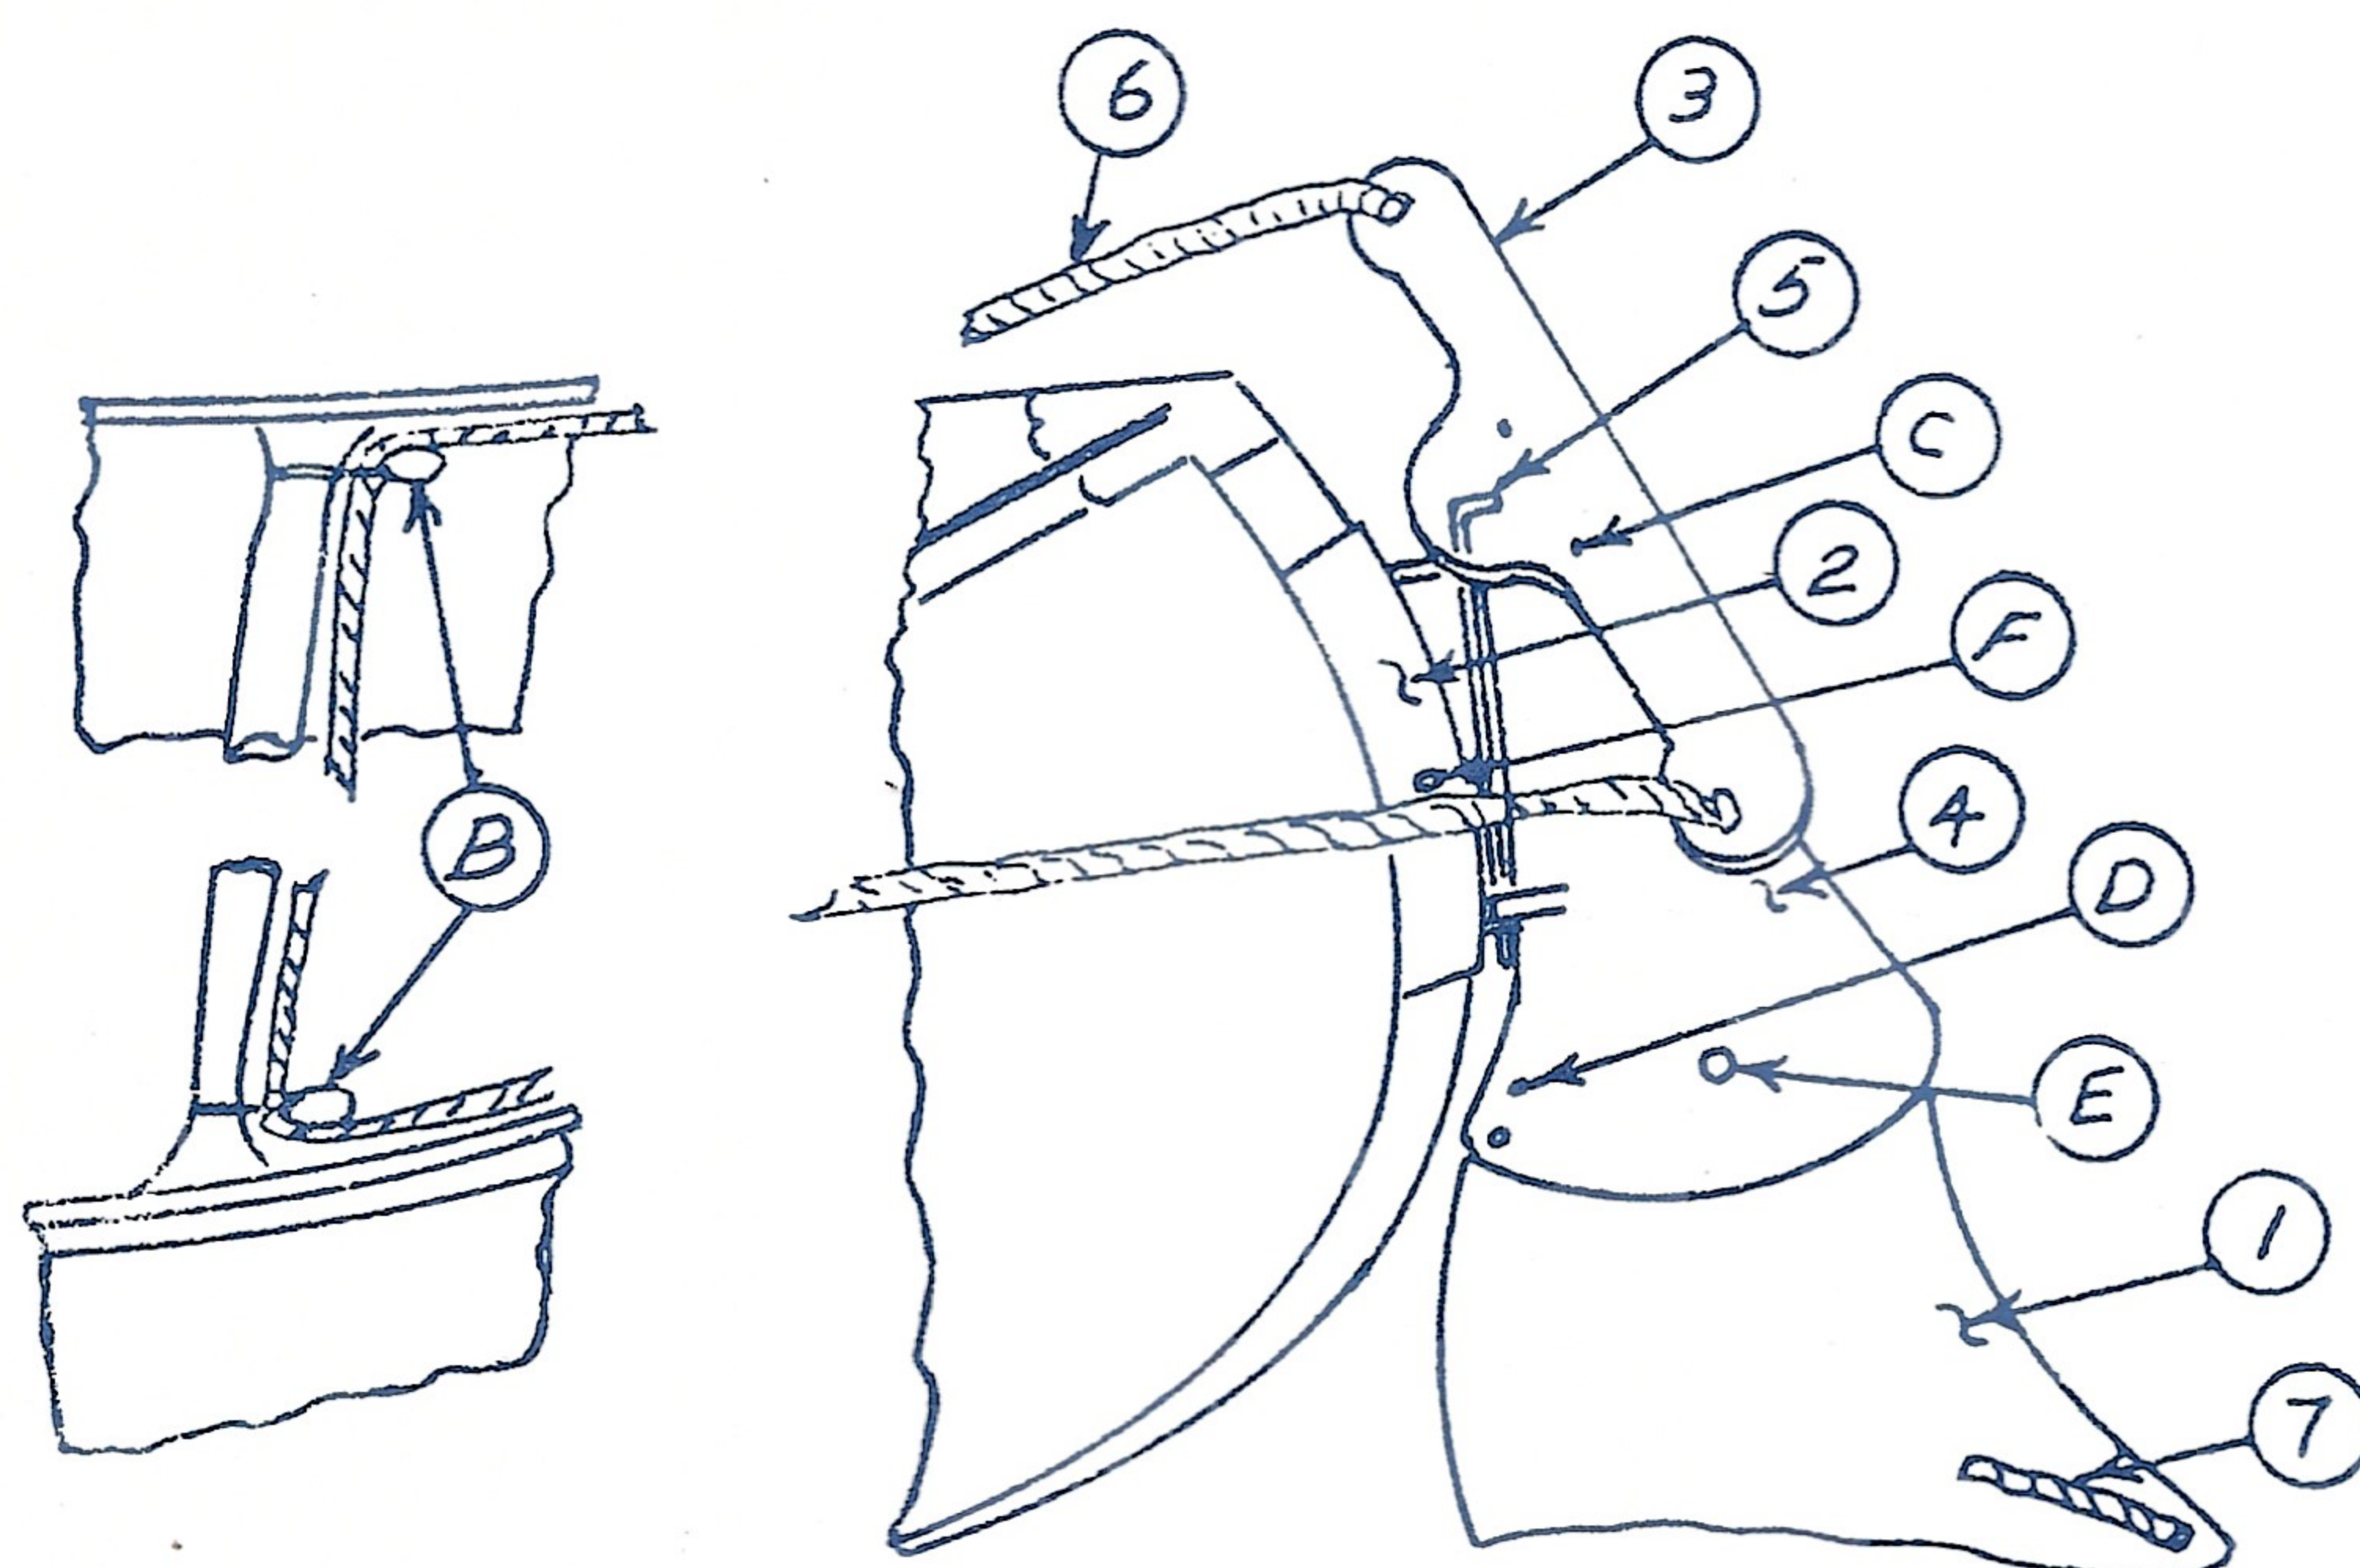

FIG. 1
- 3.) Fasten the tiller bar (3) to the blade holder (4) with the 10-24 x 1/2 machine screws (C) and lock nuts.
- 4.) Insert the blade stop pin (D) through the blade holder and fasten in place with the split ring. (The lower hole is used when more rudder leverage is desired and for use on the 17' square stern canoe.)
- 5.) Place the blade (1) in position and pass the 3/8" pivot bolt (E) through the blade holder and blade and fasten in place with corresponding washer and lock nut. Leave enough play so the blade pivots freely.
- 6.) Fit the rudder on the adapter with the tiller bar (3) over the top gudgeon and fasten by dropping the pin (5) into place. Lock the pin by swinging the holding strap on the tiller bar over top of pin.
- 7.) Using light line, tie a block (B) to each end of the center thwart. Wrap several turns tightly around the narrow part of the thwart before fastening the block to the line.
- 8.) Tilt line (7) is used to raise the rudder blade when water shoals. Fasten as shown in Fig. 1 and lead into the canoe.
- 9.) Run the tiller line (6) from one side of the tiller bar through the blocks and back to the opposite side of the tiller bar as shown. Trim to the desired length and fasten.
Install the mast thwart, with the adapter plates, in the canoe. The adapter plates fit under the gunwales at point "A", Fig. 1, between the bow (front) seat and bow deck. They are secured to the gunwales with 10-24 machine screws and lock nuts, 2 per side.